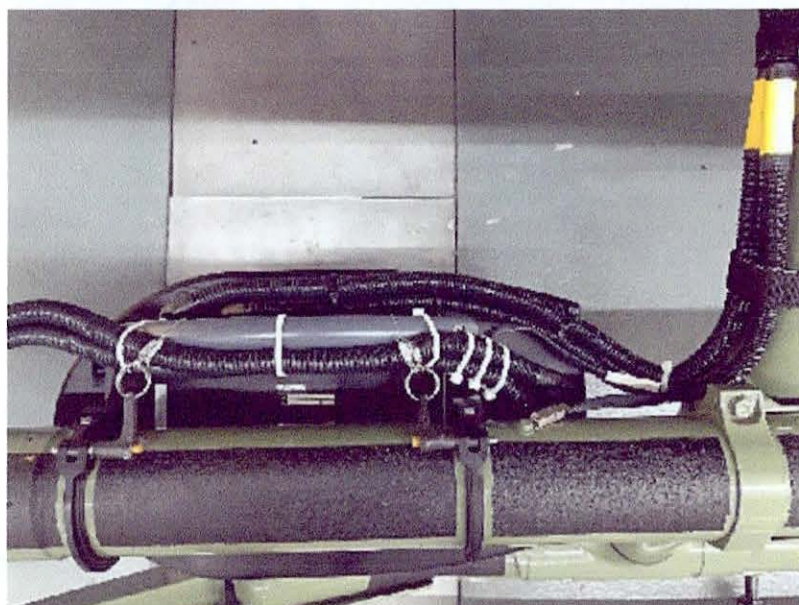

FIGURE 8: CABLE CHANNELS ROUTING
13. Route cable channels and secure to the handle as shown in Figure 8. Secure the bonding strap to the cable channels as shown in Figure 9 using an MS3367 or MIL-S-23190 tywrap (Airbus P/N ASN E0043-7C0P). Use a triple clamp binder (P/N MS3368-4-9D) to clamp the cable channels together as shown in Figure 10. Use 3 x single MS3367 or MIL-S-23190 tywraps (Airbus P/N ASN E0043-7C0P) to secure the cable channels to the handle as shown in Figure 11. To prevent damage to the cable channels, do NOT overtighten the clamp binders.